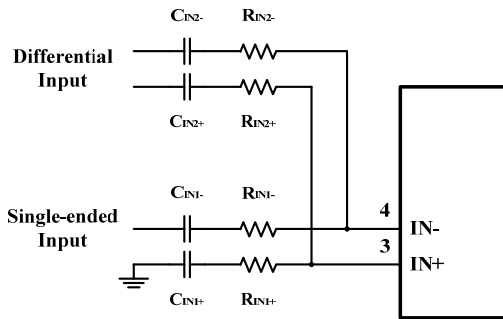

Figure 15 Application Circuit with Summing Differential Input and Single-Ended Input Signals
Figure 15 shows how to sum a differential input signal and a single-ended input signal. Ground noise may couple in through IN- with this method. It is better to use differential inputs. The corner frequency of the single-ended input is set by  $C_{IN2}$ , shown in Equation (6). To assure that each input is balanced, the single-ended input must be driven by a low-impedance source even if the input is not in use. The gain for each input source can be set independently by Equations (4) and (5).